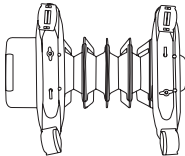

Fig. 3
- Turn the heater upside down (Fig. 3);